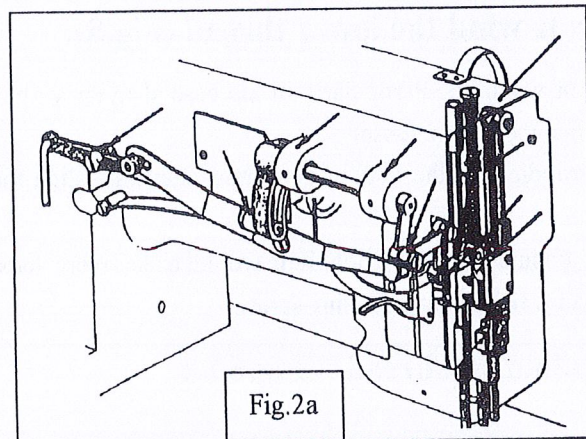
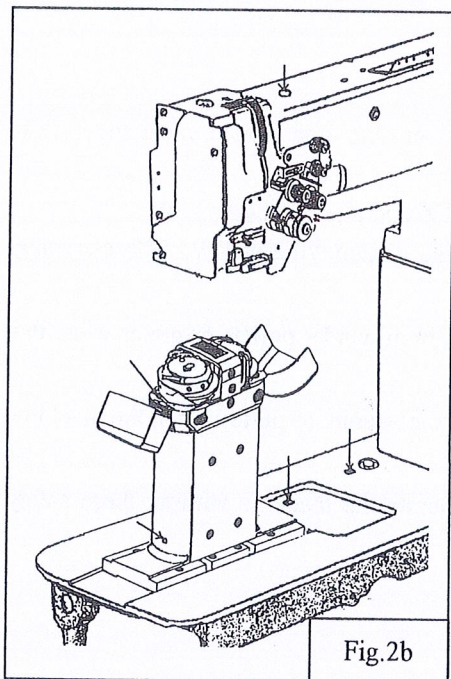

Fig.2a
Fig. 2b
### 2. Lubrication (2) (Fig.2a, Fig.2b)